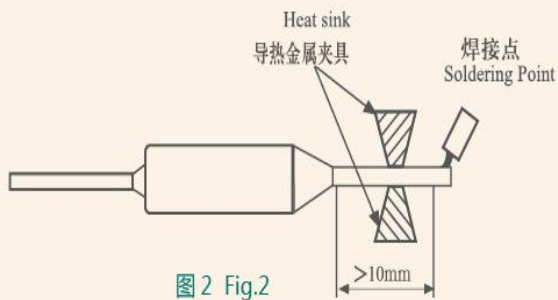

图2 Fig.2
- B. 若温保要用焊锡或浸锡方式与线路连接时，焊锡或浸锡处最好距温保本体 10mm 以上，在 300°C 状况下焊锡或浸锡时间应控制在 1 ~ 2 秒内为宜，若使用低于 113°C 的保险丝尽可能不要采用焊锡或浸锡方式。无论是烙铁焊、电焊还是浸锡，都应尽量在短时间内完成，并且要一边焊接一边散热，防止由于受热而发生早断、开路。（见图 2）
- B. If soldering connection is necessary, TCO leads should be heat sink, soldering point should be at least 10mm away from the body of TCO and soldering time should be controlled within 1–2 seconds. It is recommended not to used soldering connection if the rating of TCO is less then T_f 113 ~C, to avoid damage to the TCO. (see Fig. 2)